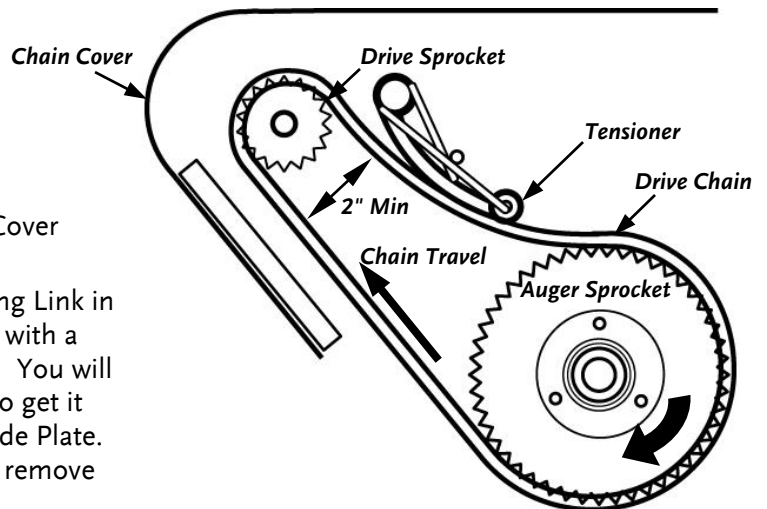
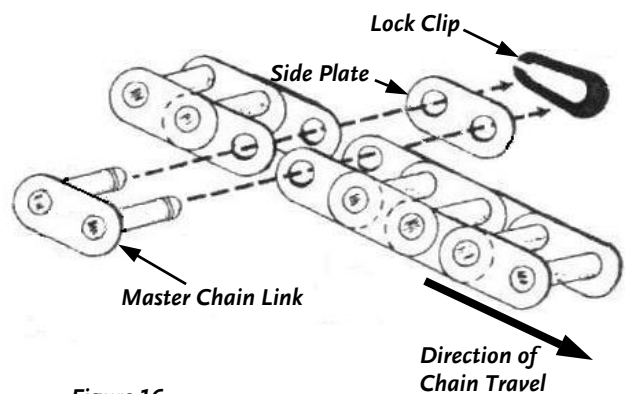

Figure 15
Figure 16
Replace the Drive Chain when the distance between the sections of the Chain is less than 2" (*Figure 15*).
1. Using a 1/2" Wrench, unbolt the Chain Cover (*Figure 15*) and remove it.
2. Locate and remove the Master Connecting Link in the chain by first removing the Lock Clip with a Blade Screwdriver and Pliers (*Figure 16*). You will need to lift one side and rotate the Clip to get it off the Master Link. Next, remove the Side Plate. Then remove the Master Chain Link and remove the Chain.
3. Check the Chain Tensioner for wear (*Figure 15*) and replace it if necessary.
4. Install the new chain around the Drive Sprocket and the Auger Sprocket (*Figure 15*).
5. Pull the Chain Tensioner (*Figure 15*) up and away from the Chain to release tension on the Chain and reinstall the Master Chain Link, as shown in *Figure 16*, in the new Chain.